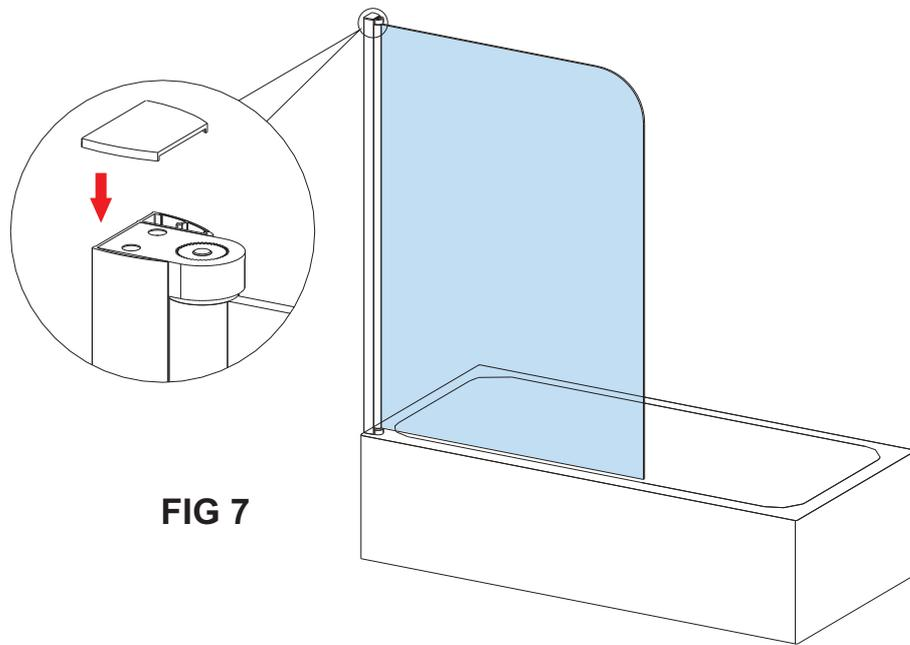

FIG 7
7. Fix top cover cap(SP0M7017) to wall profile (SP0M7013). **FIG 7.**